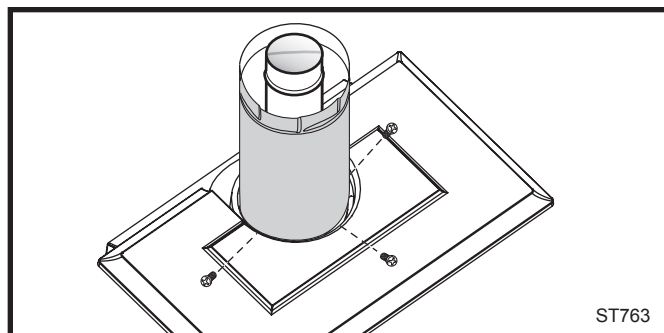

Fig. 21 Simpson DuraVent - install outer adapter pipe.
- 3. Install the Outer Adapter Pipe.** Apply a 1/4" bead of cement around the outside surface, about one inch from the crimped end. (Fig. 21) Orient the vertical seam to the rear, and insert the crimped end of the outer pipe into the flue collar. Fasten with three sheet metal screws provided.